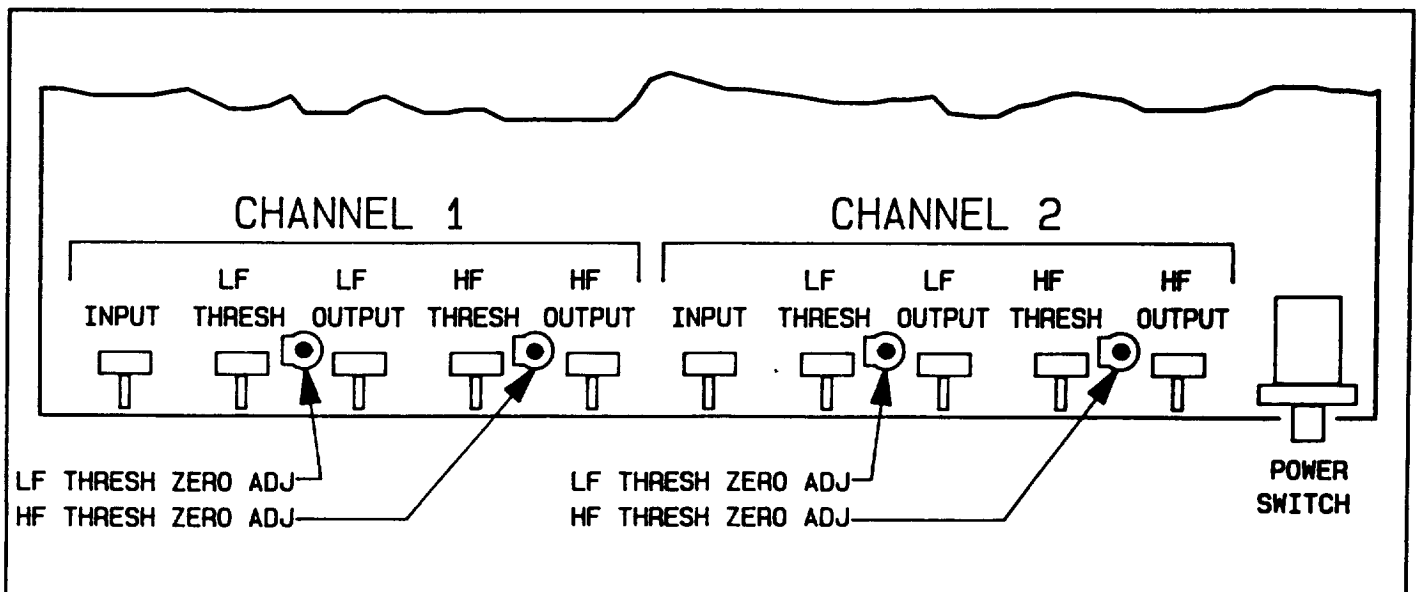

Figure 12. Location of Threshold zero adjustment trimmers.
4. Locate the proper threshold zero adjust trimmer. Refer to Figure 12.